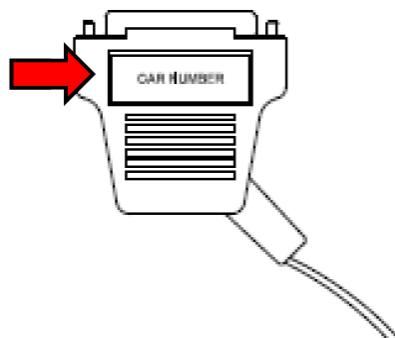

Figure 7-33: Detail View of ID Plug for the IFU
4. Reconnect the ID plug to the IFU. Figure 7-33 shows the installation detail of the ID plug for the IFU. First, reconnect the ID plug on the IFU. Second, wrap the lanyard around the bracket. Third, fix the end of the lanyard by using a bolt with washers. The ID Plug acts as a car number identifier to the IFU. The car number label should be checked on the ID plug whether its car number is the same as the actual LRV car number (e.g. Label Example "Car0125"). Please refer to Figure 7-33.